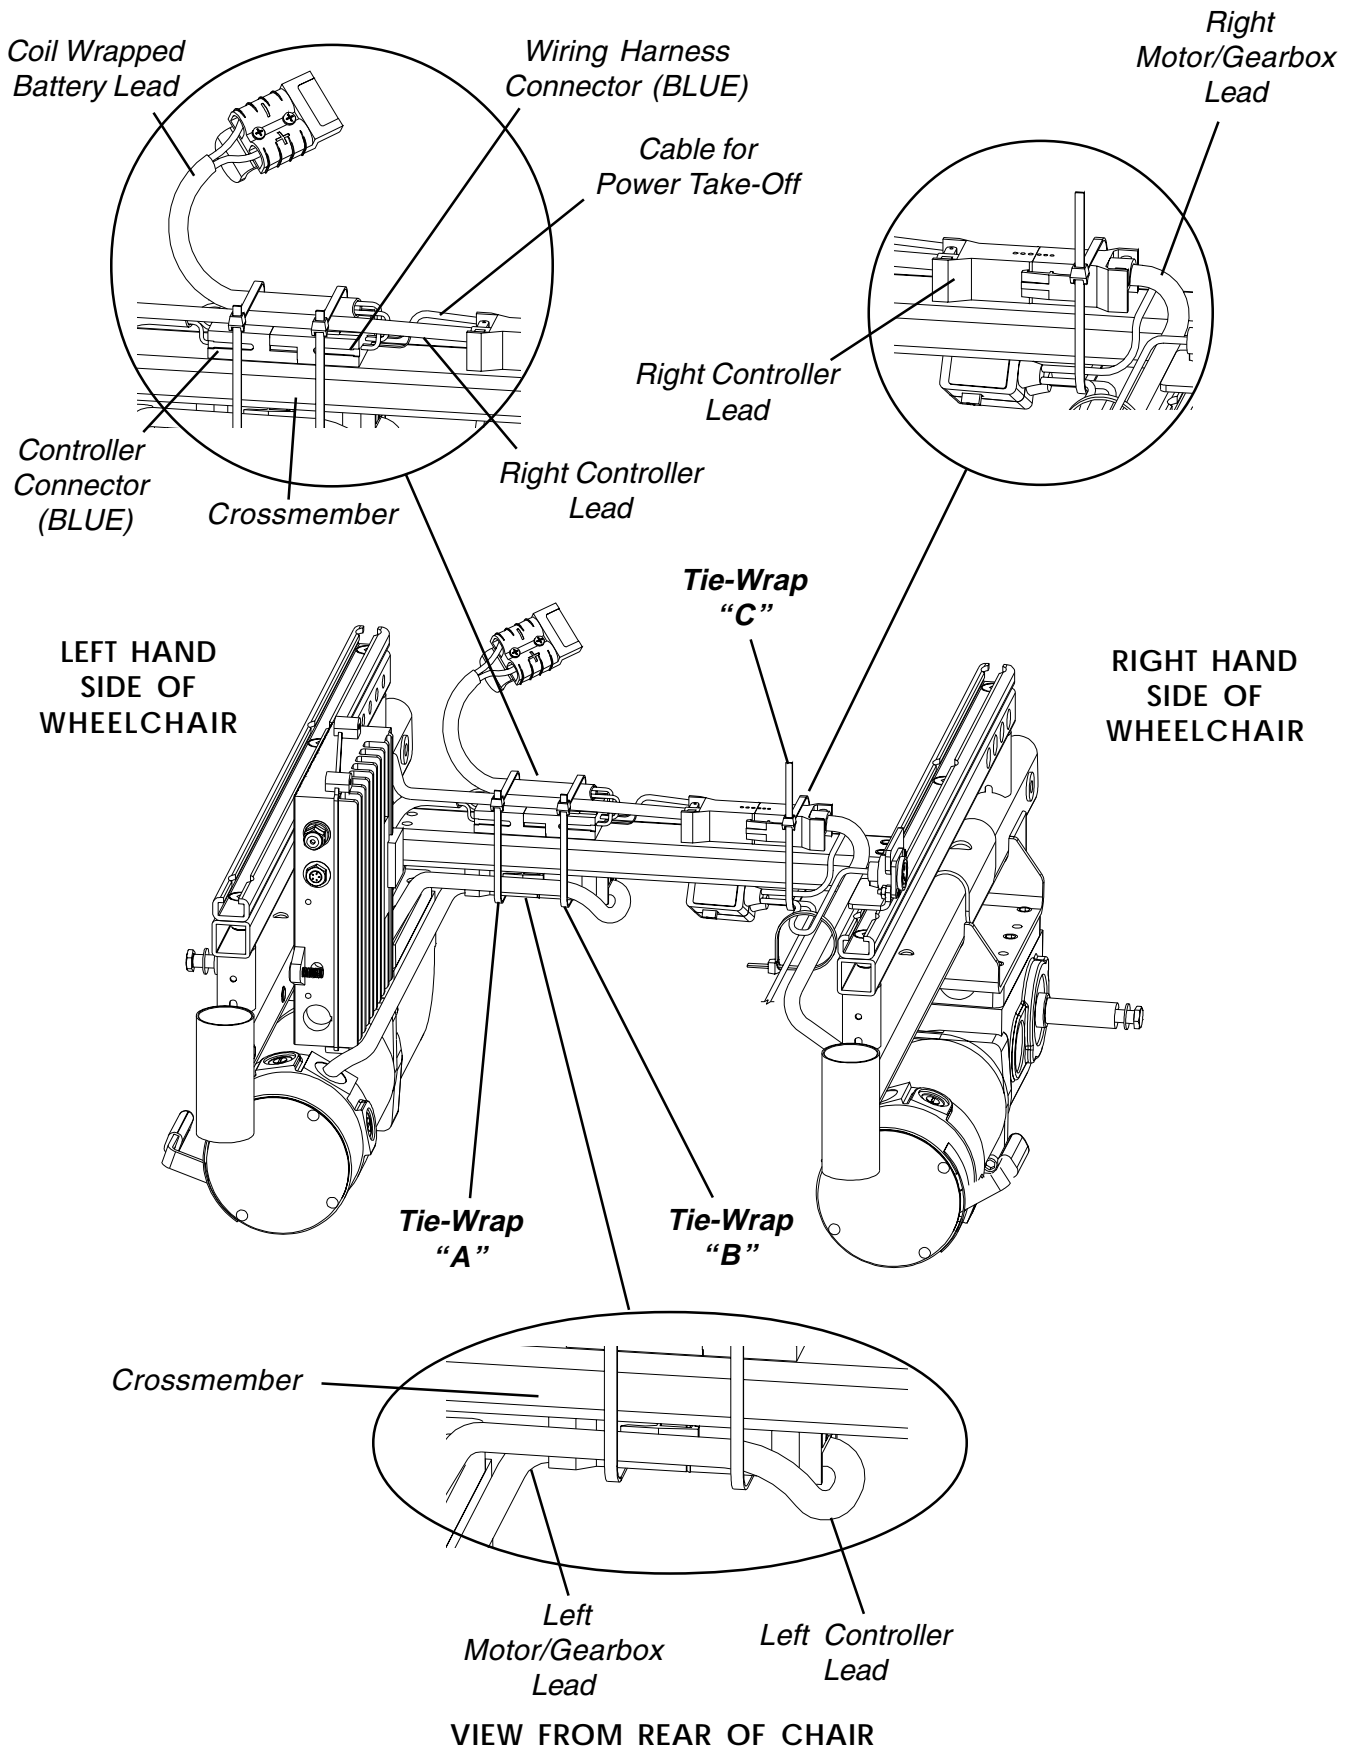

FIGURE 3 - REMOVING/INSTALLING MKIV CONTROLLER - TIE-WRAP LOCATIONS
1. Remove the seat. Refer to one (1) of the following:
3. Remove tie-wrap A and B that secure the following to the base frame: (Refer to FIGURE 3)